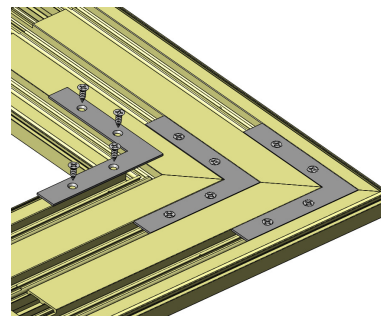

Figure 16:
1. Remove the "L-Shaped" braces and Screw #8 FHP - A - UC, 1/2", SS, Clear from the frame pack. There should be (4) screws per brace (Figure 16).